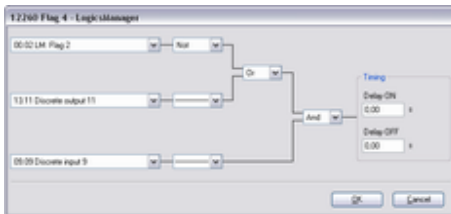

Fig. 236: LogicsManager function "Flag 4"
5. ➤ Configure the LogicsManager function "Flag 4" as shown in (Fig. 236).